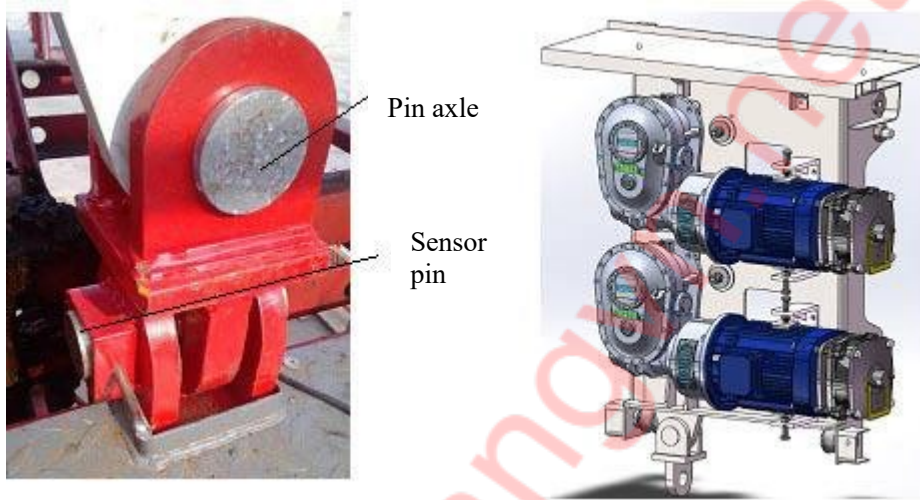

Figure 1.3-12 Schematic Diagram for Type-T Connection
- (1) Hoist the driving body to the upward side of the cage, adjust the clearance of the driving pinion and rack, the clearance between all rollers and main chord and the clearance between back rollers and the reverse side of rack, then use pin axle to connect the single lug plate of the driving body and the two lugs plate of the connecting rod, see Figure 1.3-12;
- (2) Slowly put down the driving body, and use sensor pin (weight sensor) to connect the lifting plate of cage and connecting rod, in order to finish the type-T connection of driving body and cage;
- (3) Adjust the clearance of double-rollers, side rollers of cage and main chord, and pay attention to protect the signal outlet of sensor pin so as to avoid breakdown.